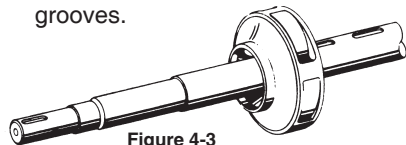

Figure 4-3
3. Assemble the centrifugal impeller (#11IN) and shaft (#17) by sliding the impeller into position with its inlet opening facing the coupling end of the shaft. (refer to figure 4-3) Place one key (#23) into position before centering the impeller between between the two snap ring grooves located nearest the coupling end. Place a drive collar (#14) into each of these snap ring grooves.